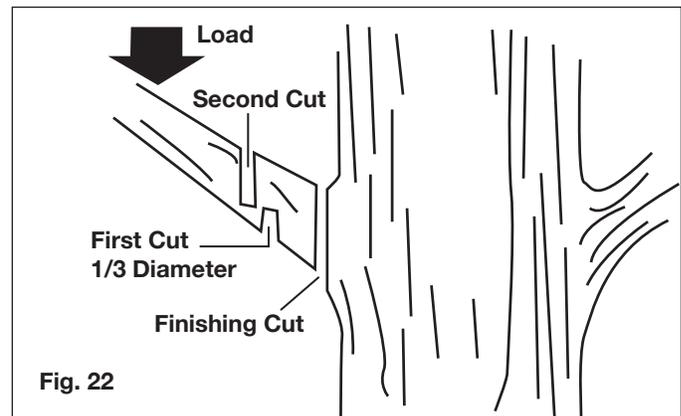

Fig. 22
- Under cut the branch 1/3 through for your first cut. Your second cut should over cut to drop the branch off (Fig. 22). Be prepared to balance the weight of the pole chain saw when the limb falls.